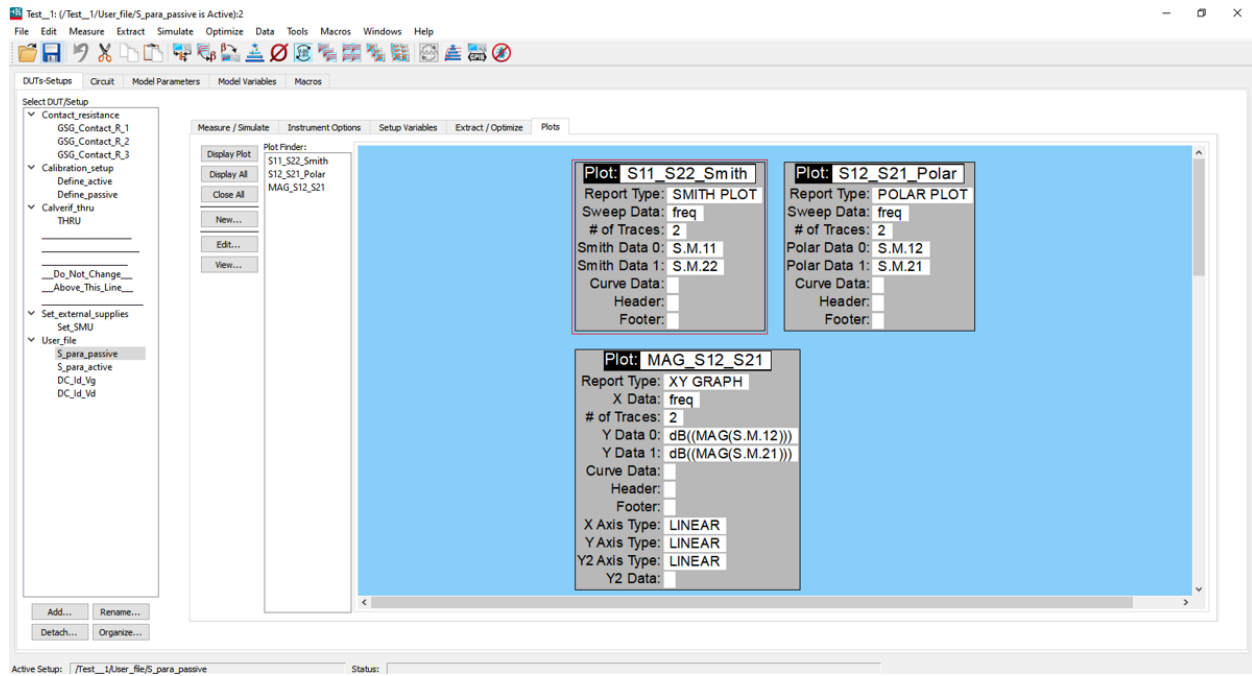
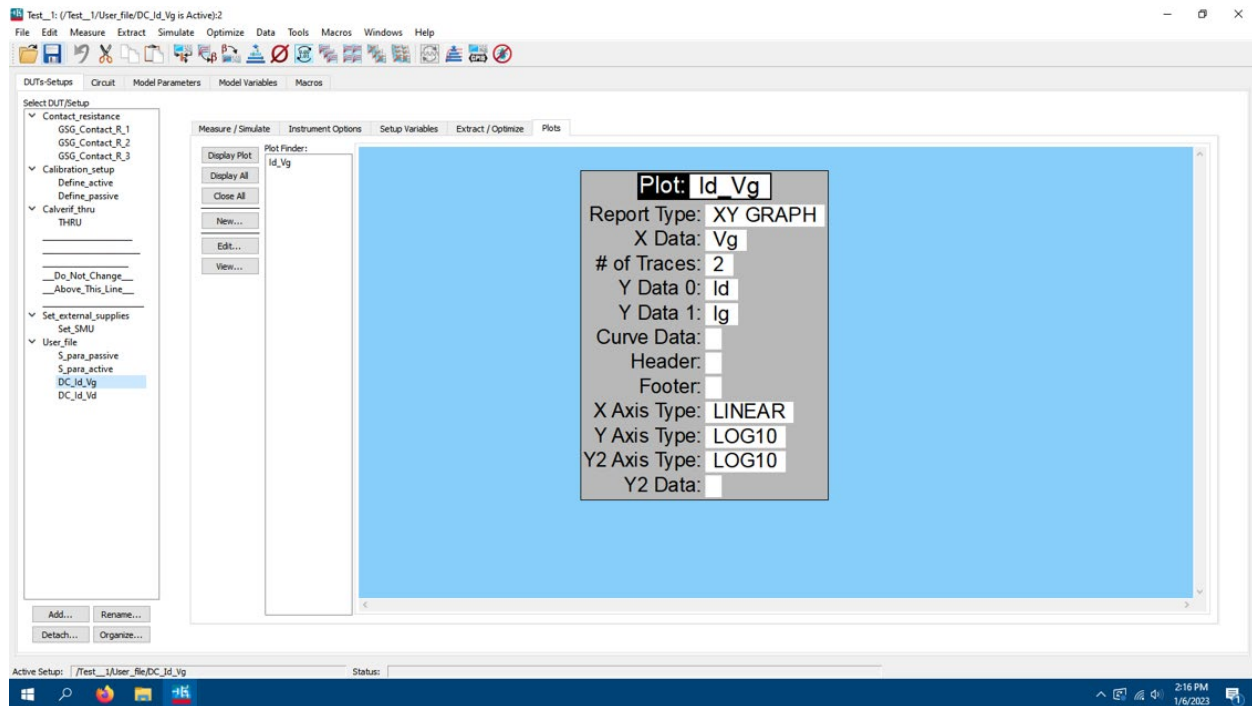
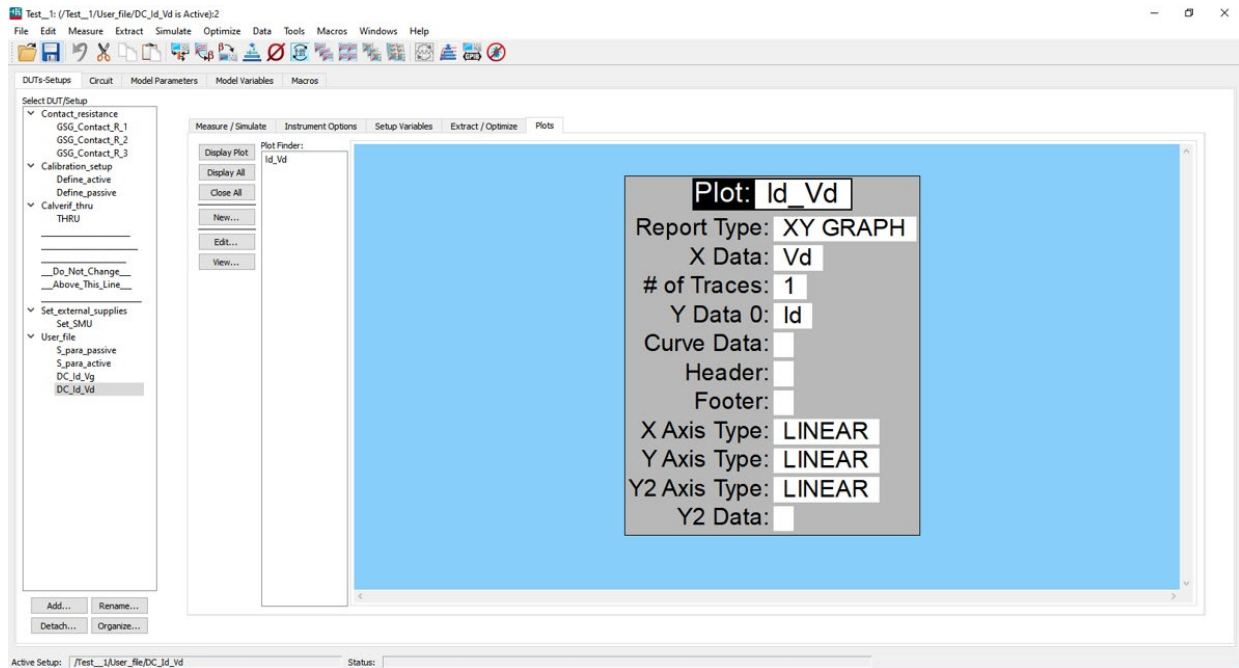

Fig. 8.6. Plotting measured S parameters.
Fig. 8.7. Plotting measured transfer characteristics of a transistor.
Fig. 8.8. Plotting measured output characteristics of a transistor.
- 8.16 After the message "Measurement done," check the data by clicking on "Plots" and choose or customize the plot settings. Fig. 8.6 shows that "S11_S21_Smith" plots S_{11} and S_{22} on a Smith chart, "S11_S21_Polar" plots S_{12} and S_{21} on a polar chart, and "MAG_S12_S21" plots the frequency dependence of magnitudes of S_{12} and S_{21} on a log-log chart. Fig. 8.7 shows that "Id_Vg" plots the transfer characteristics of a transistor. Fig. 8.8 shows that "Id_Vd" is for plotting the output characteristics of a transistor.